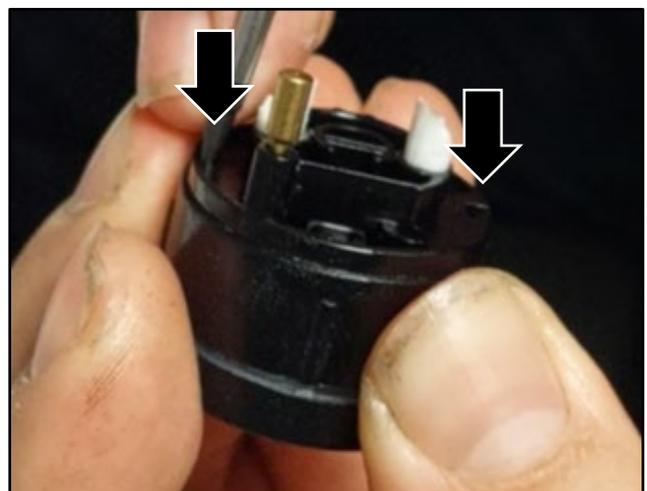

Figure 6
4. Use a small flat blade screwdriver to release the switch control face (refer to Figure 6).